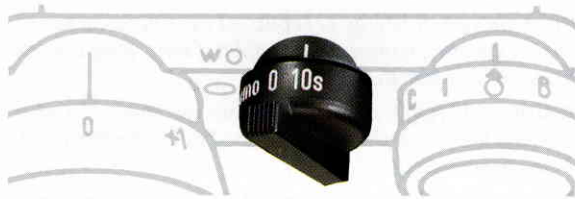

Fig. 19
**Position “10s” self timer (fig. 19):** Set the switch to this position and there is an automatic delay of 10 sec. between the shutter releasing and firing. This delayed action timer has two main functions, firstly the straightforward delayed action and secondly the use of the delayed action, as a shutter release effectively reduces vibration under conditions where vibration must be kept to an absolute minimum. Correct operation of the self timer is indicated by the red LED on the front of the camera (fig. 20) which lights during the delay and goes out when the shutter fires.